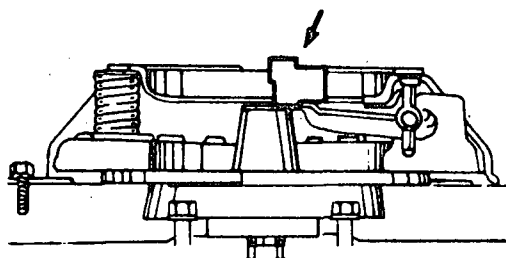

Fig. 3
- b) Adjust the clutch release levers, checking their height with a depth gauge template (fig. 3) according to the manufacturer's specifications.